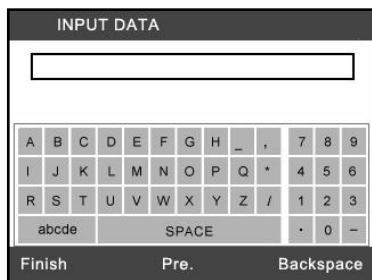

Figure 6.14
**[Show]:** Press this key to pop up a soft keyboard to facilitate your input. (Figure 6.14)